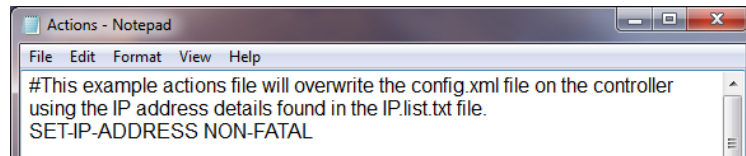

Figure 93 Example Actions.txt File to Change the Controller IP Address
- **Actions.txt** - Edit the Acions.txt file so that the only action is SET-IP-ADDRESS (see Figure 93)